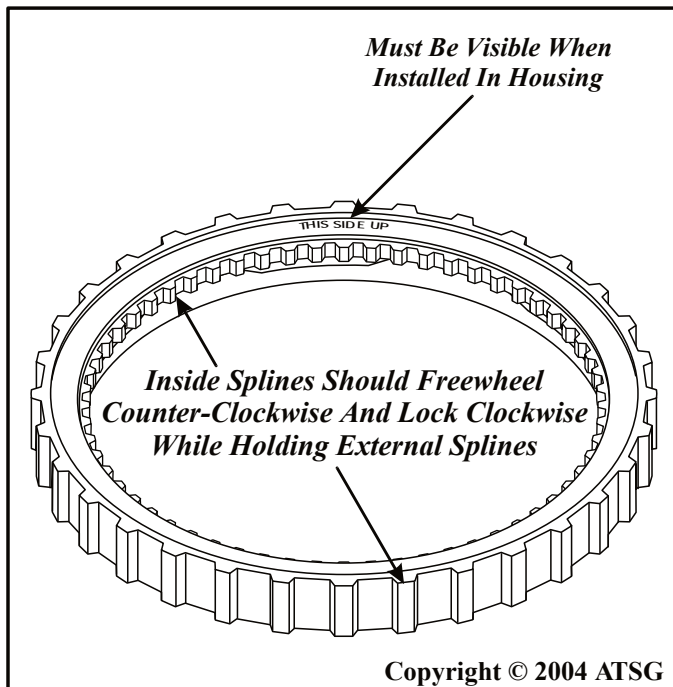

Figure 97
3. Inspect coast clutch pressure plate which now incorporates the mechanical diode one way clutch, as shown in Figure 97.
- Note: Inside splines should freewheel in the direction shown in Figure 97, and lock in the opposite direction.**
- Note: The words "This Side Up" must be visible after installation (See Figure 97).**